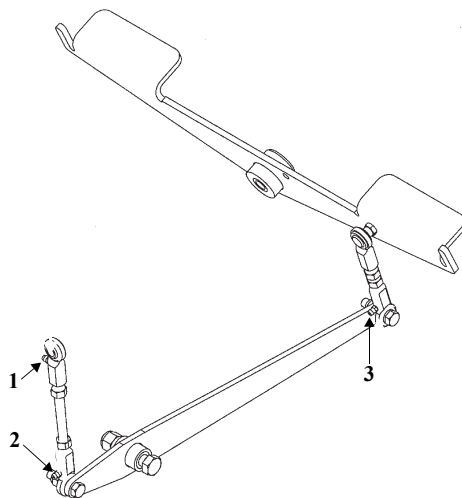

Figure 17 - Location of control pedal grease fittings
- Pump the grease gun **once** into each of the 3 grease fittings of the swing mechanism control pedal (see *Figure 17*, below).